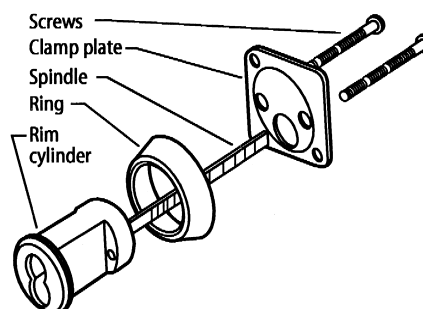

Figure 1 Securing the rim cylinder
- 2 Measure and make note of the length of the old ring, spindle, and screws. See Figure 1.
- 1 Insert the BEST cylinder from the outside of the door and secure it in place with the clamp plate. See Figure 1.